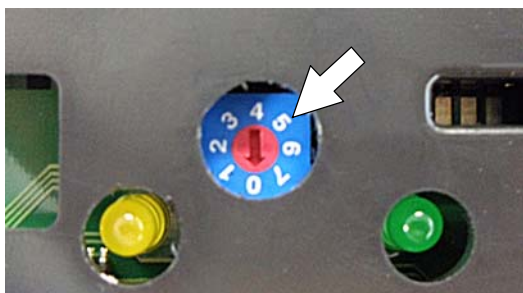

FIG. 80
3. Using a small standard screwdriver, turn the dial to the appropriate battery type according to the following chart (Figure 80).